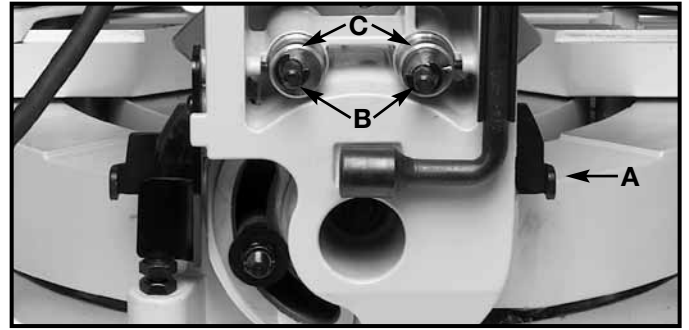

Fig. 24
The bevel setting feature utilizes a sliding plate (A) Fig. 24, pin (B), and bushing (C) design that is used to select the bevel angle. The position of the pin (B) and the sliding plate (A) determine the bevel angle.
The bevel adjustment utilizes a sliding plate (A) Fig. 24, pin (B), and bushing (C) design feature that can be adjusted to fine-adjust the bevel angle. The position of the pin within the bushing is adjustable and, when set, determines the bevel angle. To adjust, loosen the pin locking set screw(s) (D) Fig. 29 (shown from the rear), located on the side of the trunnion and rotate the bushing (C) to the desired location. Rotate the left bushing clockwise to increase and counterclockwise to decrease the bevel angle. Tighten screw(s) (D) securely.